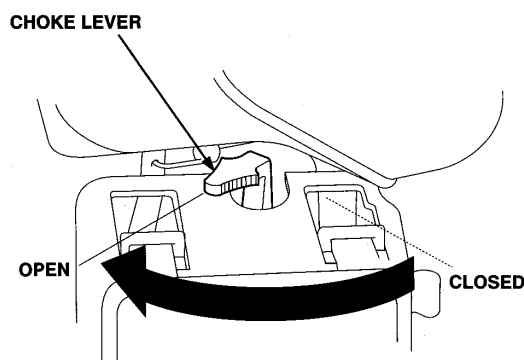

Figure 11. Engine Choke Lever (Open)
4. Place the choke lever (See Figure 11) in the **OPEN** position if starting a warm engine or the temperature is warm.